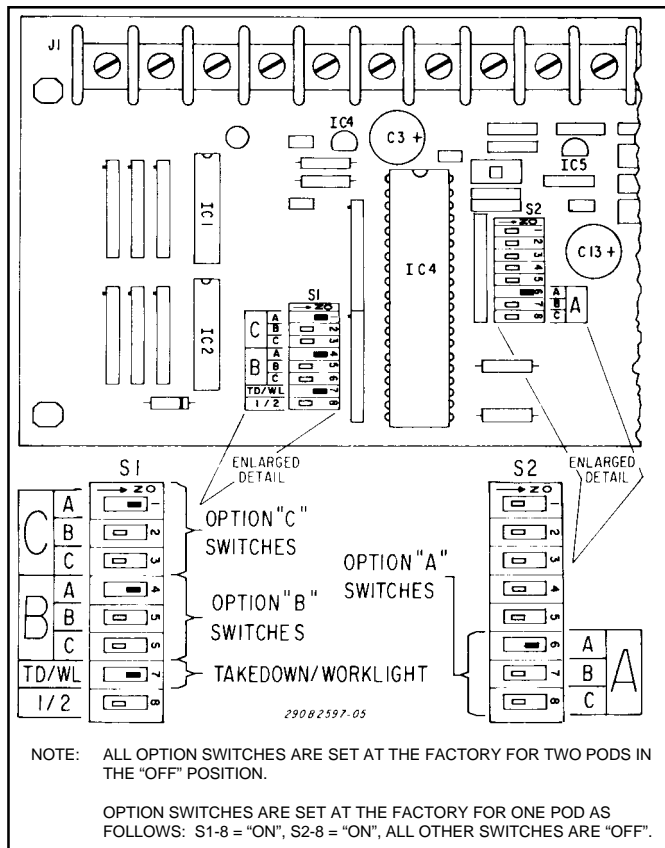

Figure 3.
1. See figure 3. Remove and retain the four screws which secure the cover on the light bar. Slide the cover back slightly and carefully lift to remove.
2. Remove and retain the four screws which secure the large circuit board. Turn the circuit board over. See figure 3 and refer to Tables 2 through 4. Set the switches on the circuit board for the desired smart pods' settings.
3. See figure 3. To change the takedown function to a work light function (if desired), set the switch marked "TD/WL" to the "ON" position.
4. See figure 3. To change the flashing pattern from alternating (factory setting) to simultaneous, set switch S2-5 to the "ON" position.
5. See figure 3. To change the flashing pattern's flash rate from 90 FPM (factory setting) to 120 FPM, set switch S2-4 to the "ON" position.